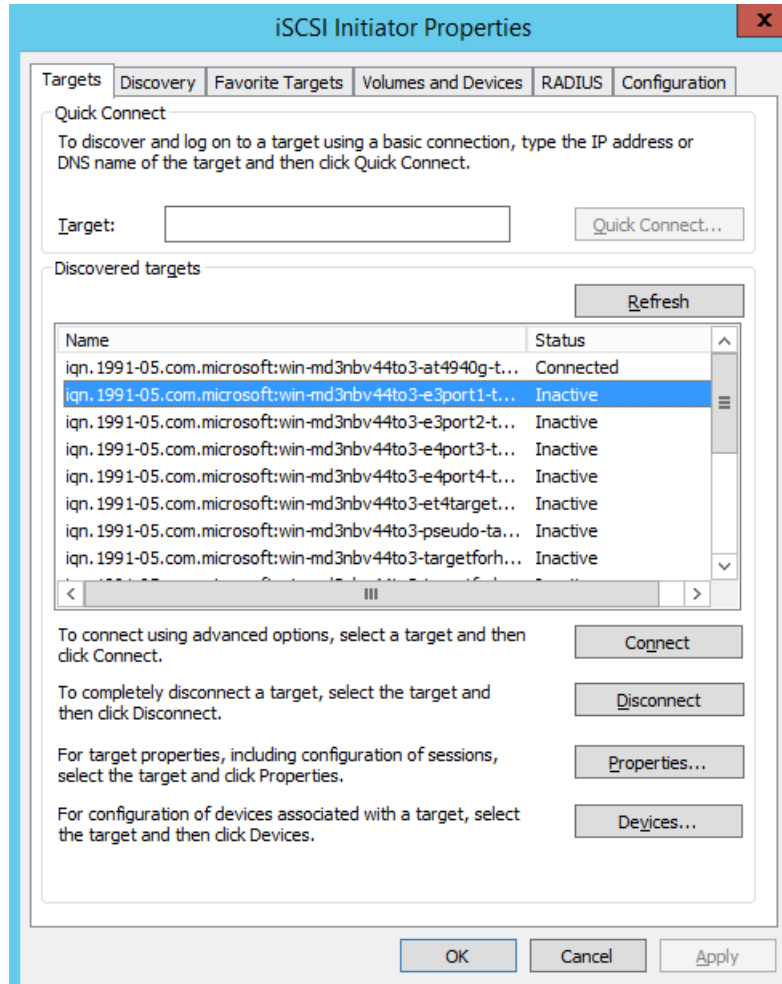

Figure 10-6. Connecting to the iSCSI Target
- Click the **Targets** tab, and then on the Targets page (Figure 10-6), click **Connect**.